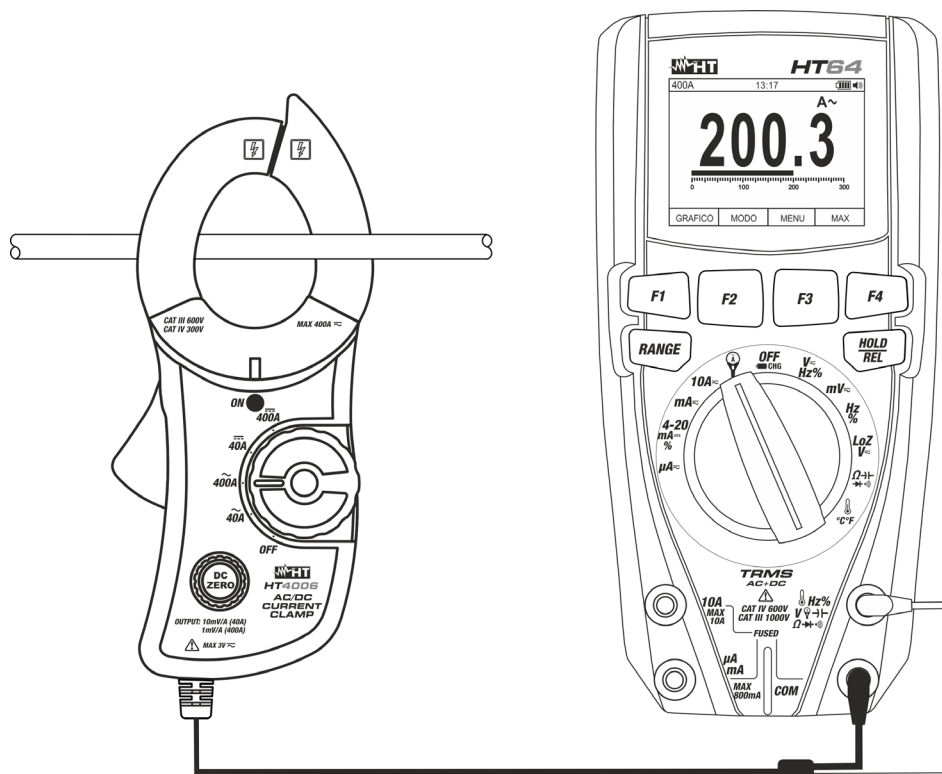

Fig. 3: Use of the instrument for measuring AC/DC current in combination with HT64
- Open the jaws and insert the phase cable in the middle of it (see Fig. 3). **For DC current measurement** consider the arrow on the top part (see Fig. 1 – part 9) which indicate the positive direction of the current. The display of the multimeter shows the value of current **expressed in A**